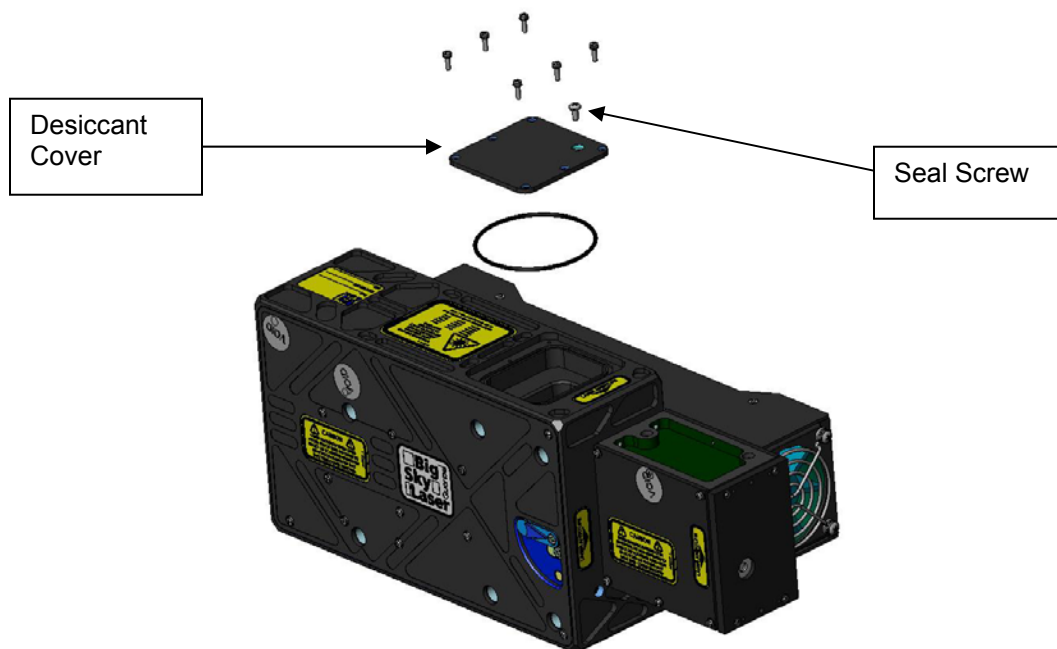

Figure 6-1: Desiccant Pocket
1. Remove the two nitrogen purge/seal screws, one on the desiccant pocket cover, and one on the front of the laser. (See Figure 6-1). Do not remove the desiccant pocket cover.